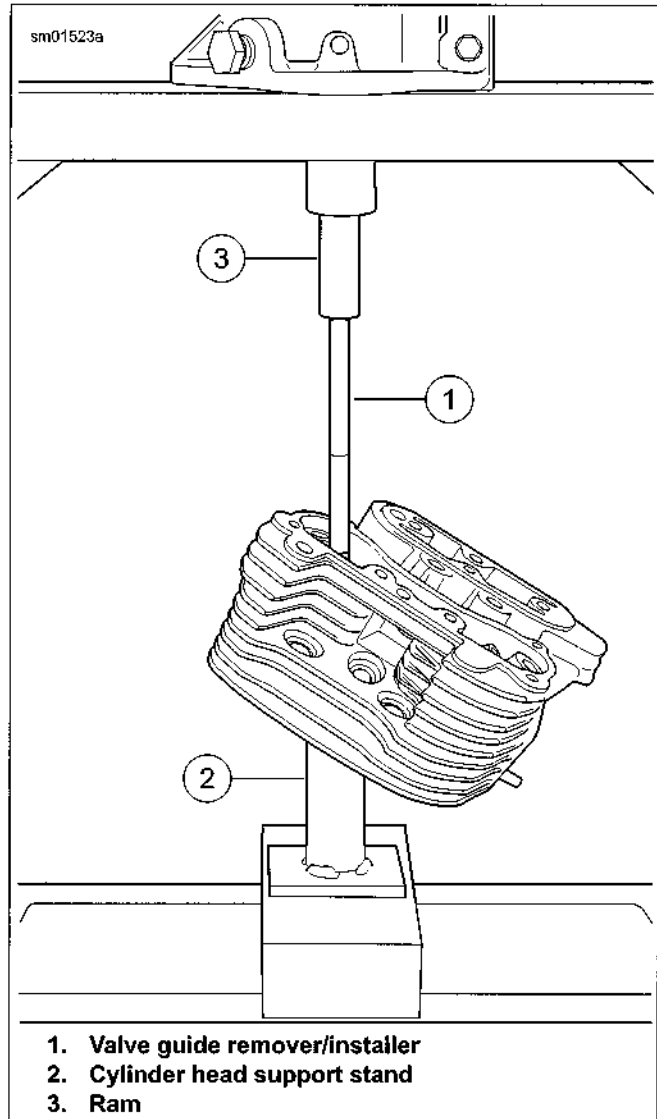

Figure 3-36. Removing Shoulderless Valve Guide
2. See Figure 3-36. At top of the cylinder head, insert VALVE GUIDE REMOVER/INSTALLER (Part No. B-45524) (1) into valve guide bore until tool shoulder contacts end of valve guide.